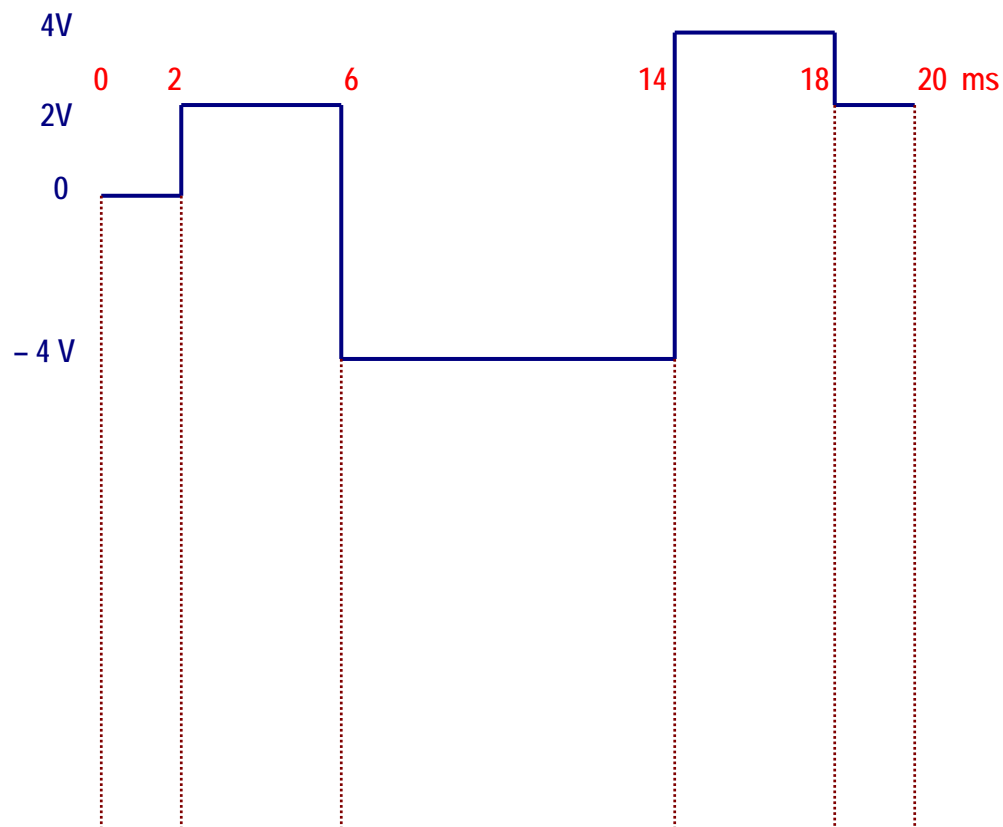

Figure 8-20. Input waveform for question 5.
5. The input waveform shown in Figure 8-20 is applied to a non-inverting differentiator with $RC = 5 \text{ ms}$ and a supply of $\pm 18 \text{ V}$.
- a. Draw the expected output waveform below the input signal in Figure 8-20 indicating its amplitude.